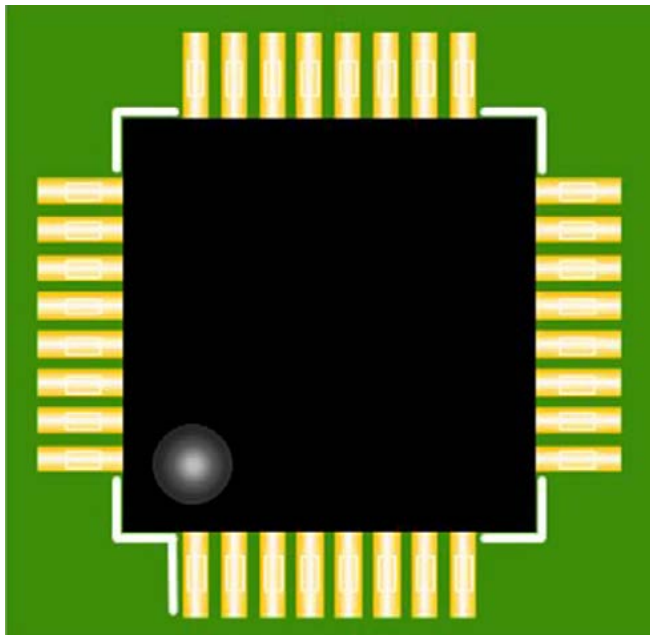

Figure 2: Silkscreen polarity marking, reference designators, revision level and serial numbers should be visible after assembly.
2. Follow J-STD-001E Assembly Requirements Section 9.2: Silkscreen polarity marking, reference designators, revision level and serial numbers shall be visible after assembly, as shown in Figure 2